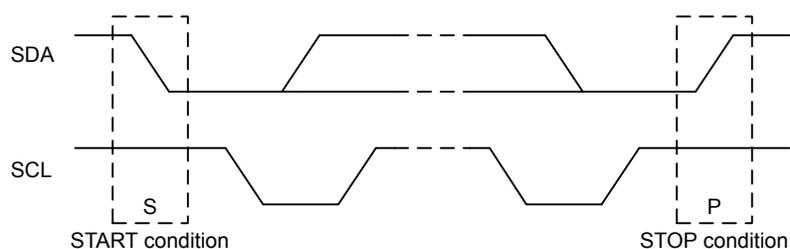

Figure 17.4. I²C START and STOP Conditions
START and STOP conditions are used to initiate and stop transactions on the I²C-bus. All transactions on the bus begin with a START condition (S) and end with a STOP condition (P). As shown in Figure 17.4 I²C START and STOP Conditions on page 504, a START condition is generated by pulling the SDA line low while SCL is high, and a STOP condition is generated by pulling the SDA line high while SCL is high.